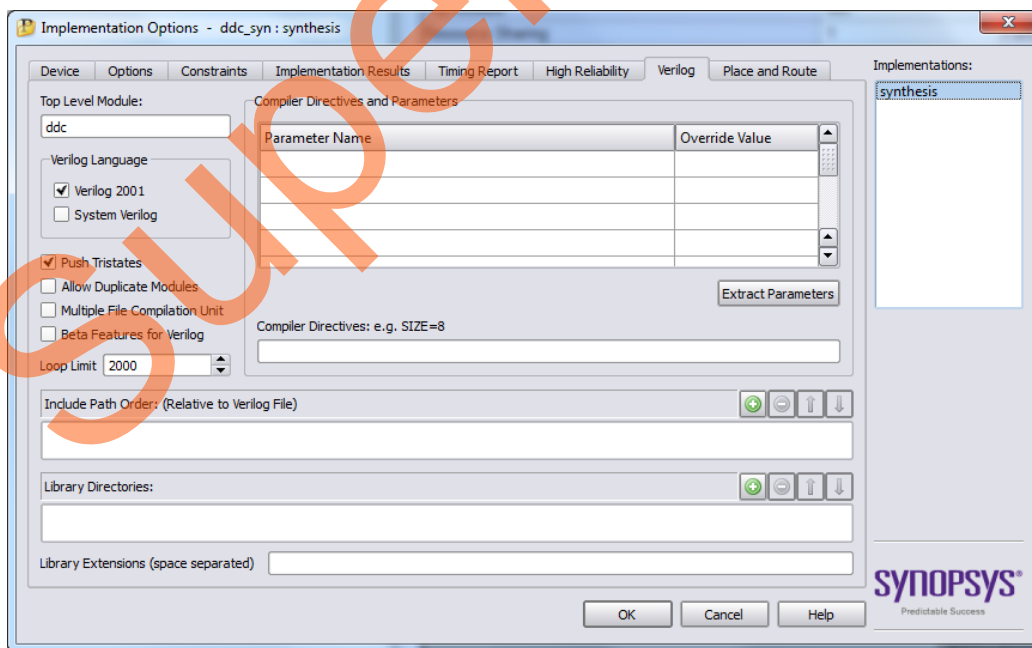

Figure 31. Implementation Options for Verilog Flow
- For a Verilog flow, under Synopsys Synplify Pro ME, click **Implementation Options** and select Verilog language as **Verilog2001**, as shown in Figure 31.